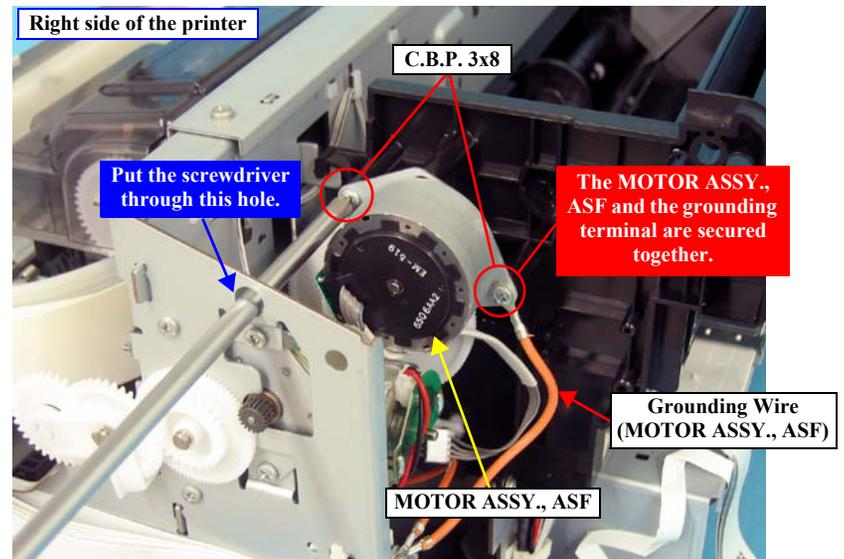

Figure 4-42. Removing the screws from the MOTOR ASSY., ASF
4. Remove the two screws that secure the MOTOR ASSY., ASF and remove the MOTOR ASSY., ASF. *See Figure 4-42.*
Put a screwdriver (with a 60 mm or longer shaft is recommended) through the holes on the FRAME ASSY., SUB, RIGHT to remove the C.B.P 3x8 screws that secure the MOTOR ASSY., ASF as shown in *Figure 4-42*.
- Secure the grounding terminal and the MOTOR ASSY., ASF together with the C.B.S. 3 x 8 screw at the rear as shown in *Figure 4-42*.